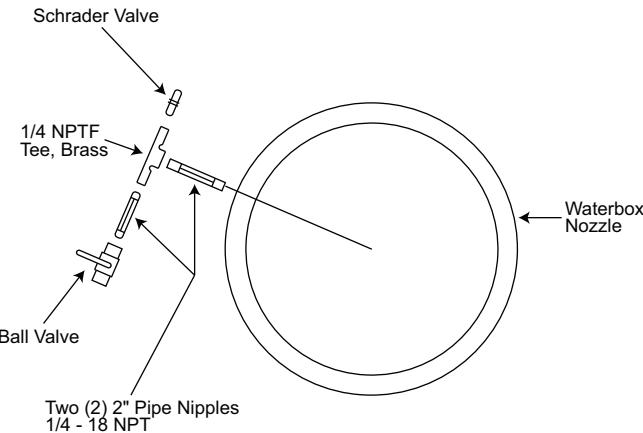

Fig. 50 — Suggested Installation of Pressure Transducers into Water Nozzles Using Flushable Dirt Leg Trap
5. Installation of pressure transducers into water nozzles using flushable dirt leg trap is suggested; see Fig. 50. Pressures can be calibrated between 100 and 250 psig (689.5 and 1723.7 kPa) by attaching a regulated 250 psig (1724 kPa) pressure (usually from a nitrogen cylinder). For calibration, access the Pressure Sensor Calibration Menu from the Maintenance Menu and calibrate the appropriate sensor.